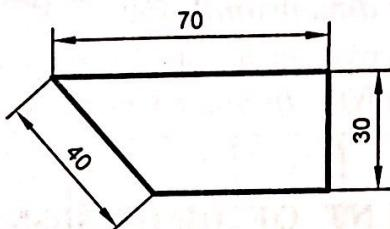

FIG. 11
- See Fig. 11. Dimensional value is placed above the dimension line without breaking it. It is placed parallel to and at the middle of the dimension line without touching it.